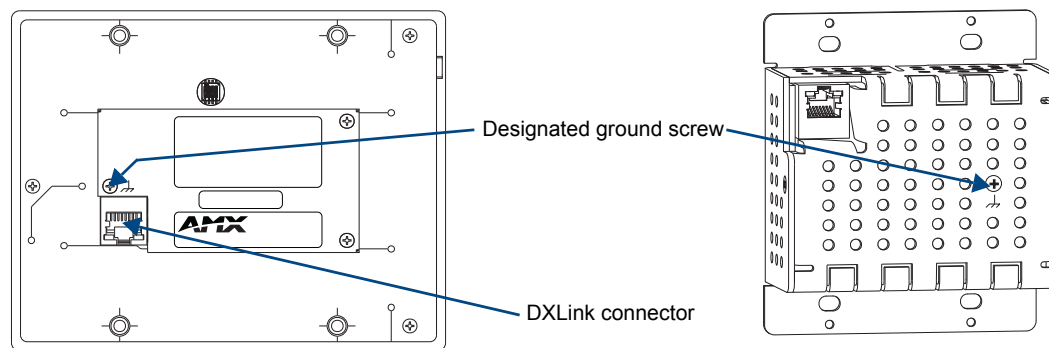

FIG. 24 Wallplate TX and Decor Wallplate TX - Remove ground screw and washer
2. Remove the ground screw and washer for the applicable unit, as indicated in FIG. 24.